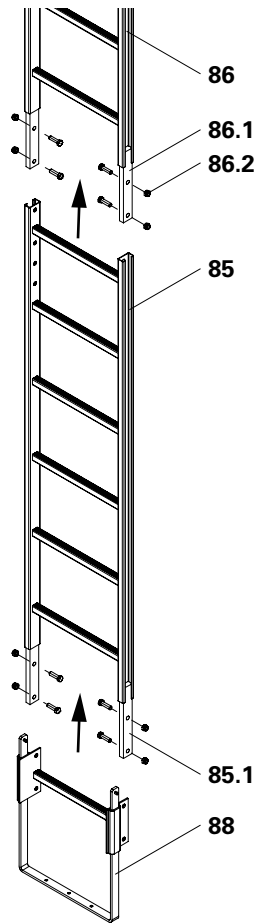

Fig. B5.08
3. Fix ladder base (**88**) to the connector on the bottom ladder in the same way using 4x bolts M12 x 40 and nuts. (Fig. B5.08)